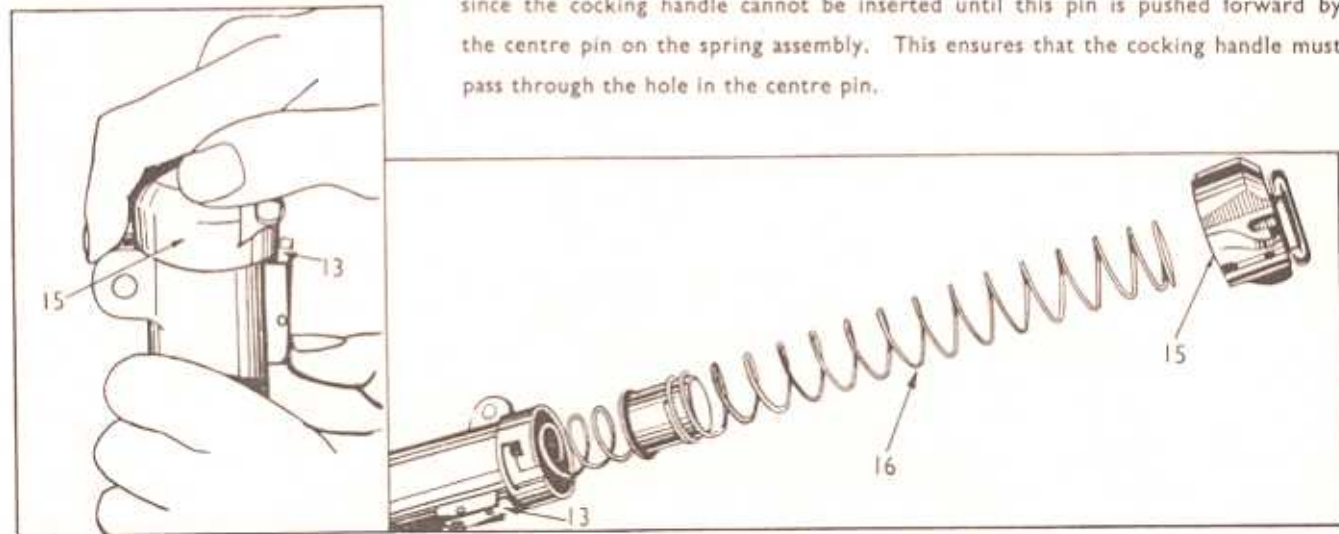

Fig. 10. To remove return spring and bolt
8.0 ELEMENTARY STRIPPING AND ASSEMBLING (Figs. 10 and 11). Before stripping, ensure that the weapon is not loaded and remove sling if fitted. Set change lever to A, place butt in the folded position and bolt forward.